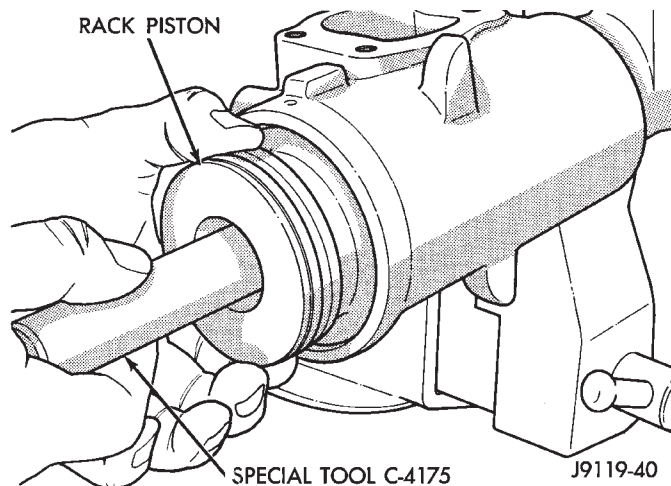
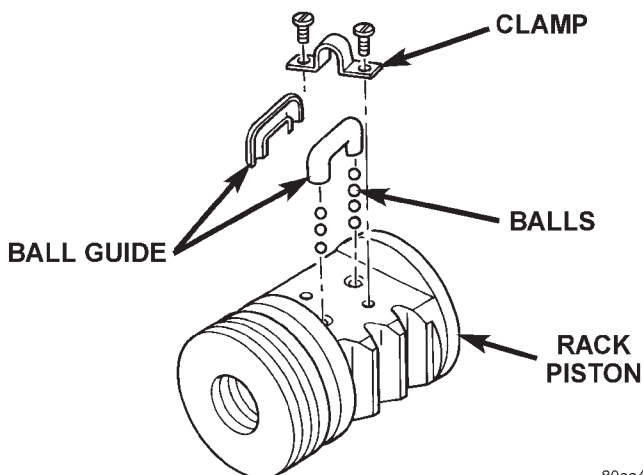

Fig. 20 Rack Piston with Arbor
Fig. 21 Rack Piston
- (4) Turn stub shaft COUNTERCLOCKWISE until the rack piston begins to come out of the housing.
- (5) Insert Arbor C-4175 into bore of rack piston (Fig. 20) and hold tool tightly against worm shaft.
- (6) Turn the stub shaft with a 12 point socket COUNTERCLOCKWISE, this will force the rack piston onto the tool and hold the rack piston balls in place.
- (7) Remove the rack piston and tool together from housing.
- (8) Remove tool from rack piston.
- (9) Remove rack piston balls.
- (10) Remove clamp bolts, clamp and ball guide (Fig. 21).